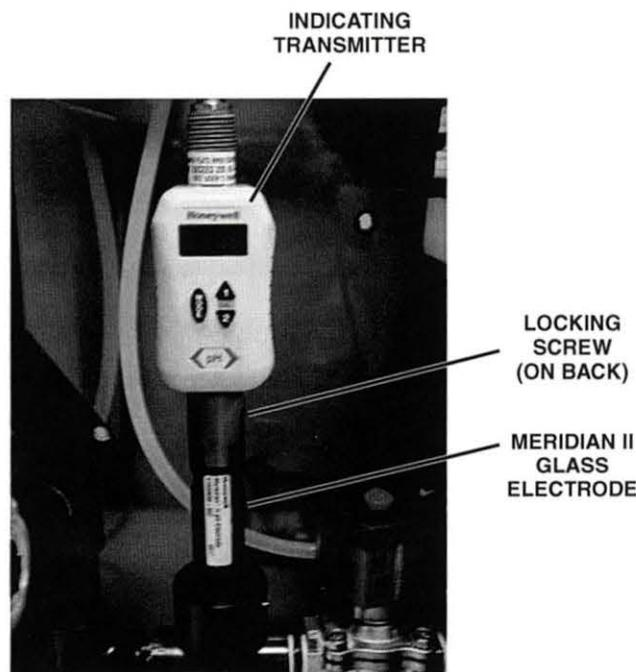

Figure 27. Indicating Transmitter Connected to Electrode
- A. If the indicating transmitter is attached to the electrode, as shown in figure 27, turn the locking screw on back counterclockwise to loosen it and remove the indicating transmitter by gently pulling up on it.